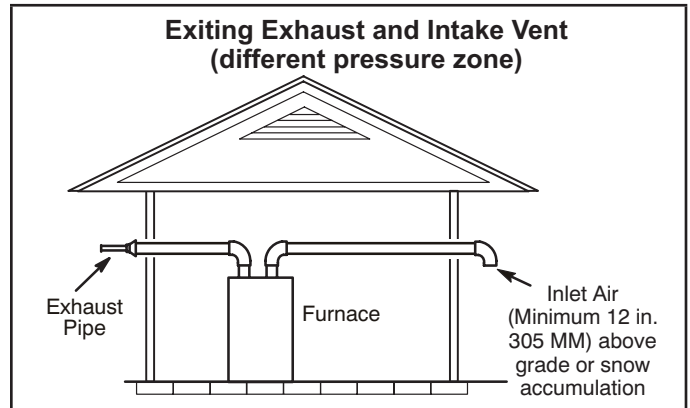
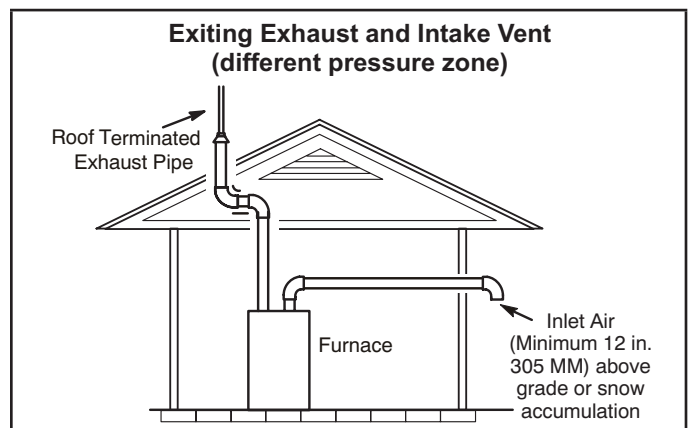

FIGURE 27
FIGURE 28
- 1 - Intake and exhaust terminations are not required to be in the same pressure zone. You may exit the intake on one side of the structure and the exhaust on another side (FIGURE 27). You may exit the exhaust out the roof and the intake out the side of the structure (FIGURE 28).